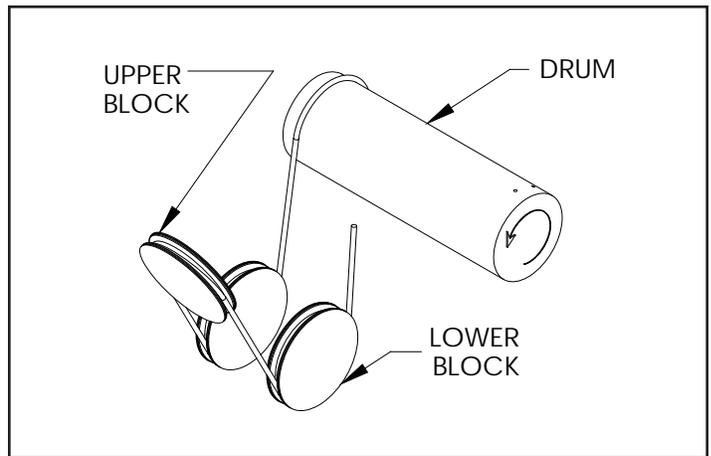

Figure 5-5a. Reeving Diagram - 4 Part Single Reeved.
- (5) With outer lower block covers removed, thread the wire rope through the sheaves of the upper and lower block as shown in Figures 5-5a and 5-5b.
- (6) Attach swaged rope end to the dead end anchor pin and fasten with the retainers rings provided with the hoist.
- (7) Replace the lower block sheave covers.
- (8) Lubricate cable per Paragraph 4-3.